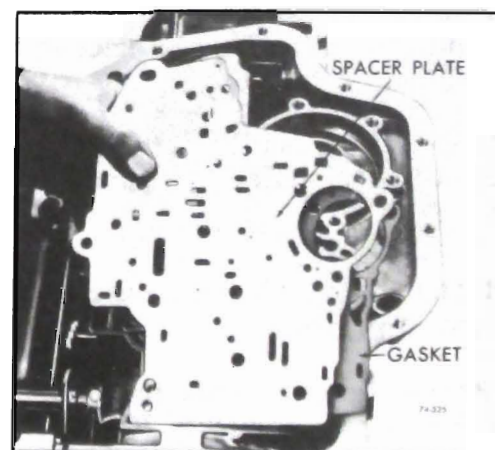

Figure 76-525
7. Remove valve body assembly spacer plate and gasket. See Figure 76-525.